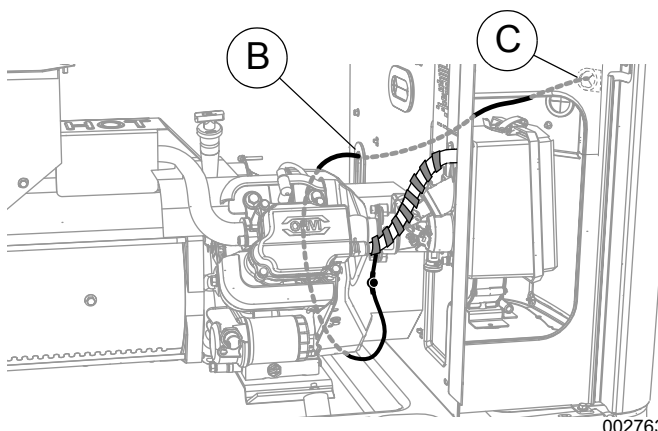

Figure 5. Lead Wires to Customer Connection (9 kW)
3. See Figure 5. Pass the lead wires through the harness grommet (B) in the engine divider panel, and then through the customer connection panel grommet (C). Secure all wires with plastic wire ties at least 0.5 in. (1 cm) away from fuel hoses.